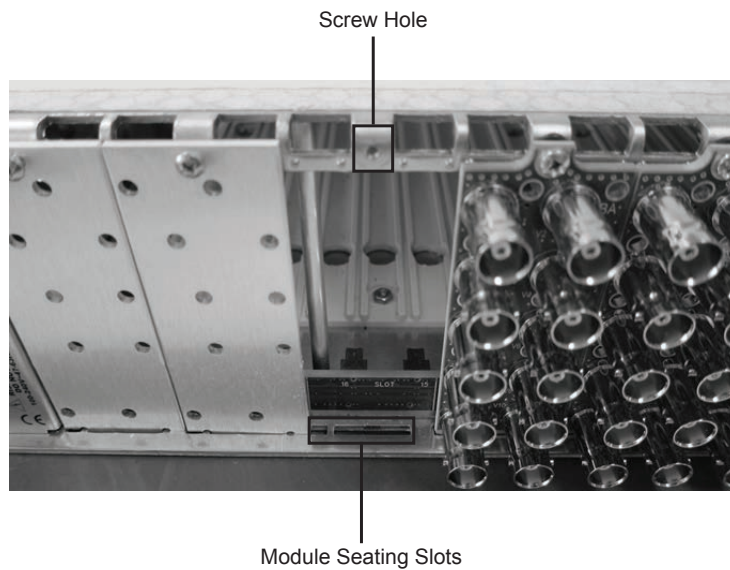

Figure 7 Rear Module Installation in an openGear Frame (ADA-8405-C not shown)
3. Install the bottom of the rear module in the **Module Seating Slot** at the base of the frame's back plane. **Figure 7**